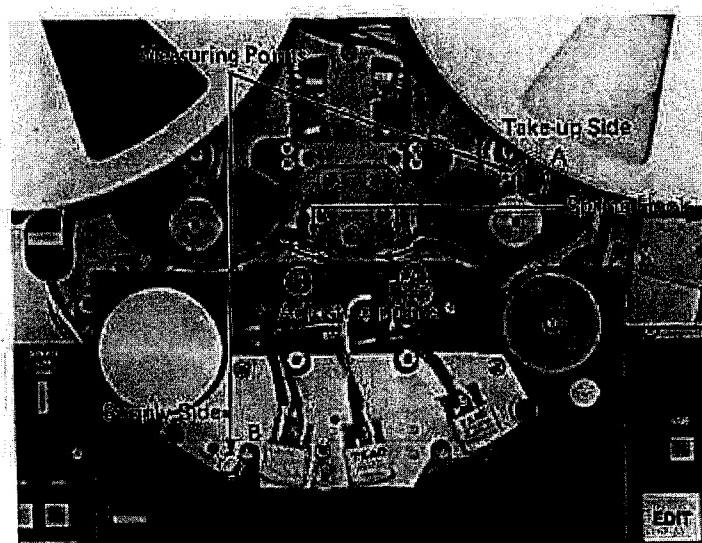

Fig. 9-4-7. Tape Tension Measurement and Adjustment Points
Thread a blank tape onto the deck in the same manner as described in A (2) and set the deck into the edit mode. Measure the tape tension at both the take-up side and supply reel side with a tension analyzer or a tentelometer. The measurement should be made at both the supply side and take-up side at points A and B as shown in Fig. 9-4-7.
If a tensiometer is used to measure tape tension, run tape in the Spooling mode, then stop the supply reel by hand and read the meter at A (in forward spooling) and B (in reverse spooling) shown in Fig. 9-4-7. The measurement should be read at both points. Adjustment pots to be used are the same as in the fast forward and rewind modes: